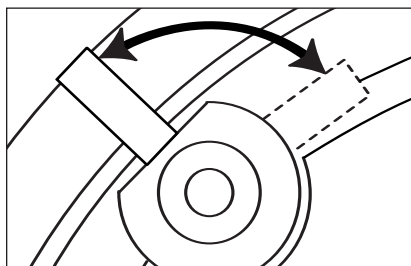

Figure 17 Tightening the mounting "dogs"
5. The DS8300AT and DS8500AT feature a separate frame assembly which installs with four clamps or mounting "dogs" which hold the frame in place. The dogs are tightened via four front-baffle screws. Tighten the dogs by turning the screws clockwise. **DO NOT OVERTIGHTEN THESE SCREWS.** Over-tightening the clamps may make the grille difficult to install. (**See Figure 17**).